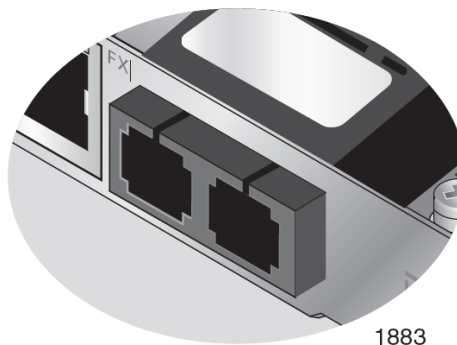

Figure 8. AT-2716POE Fiber Port
- For the fiber optic connector, prepare a fiber optic cable according to the specifications in Table 2. Connect one end of the cable to the adapter. See Figure 8 on page 27 for an example of the fiber optic connector.